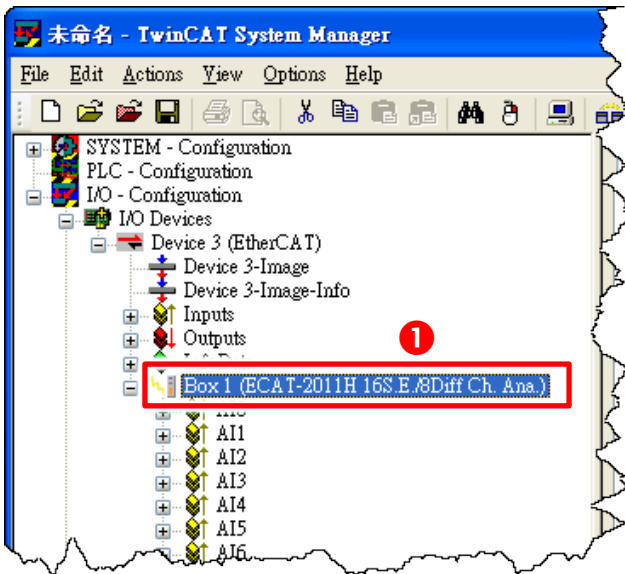

Figure 3-3.3
- ❶ In the left-hand window, click the “**Box 1 (ECAT-201xH 16S.E./8Diff Ch. Ana.)**” itme. (See Figure 3-3.3)